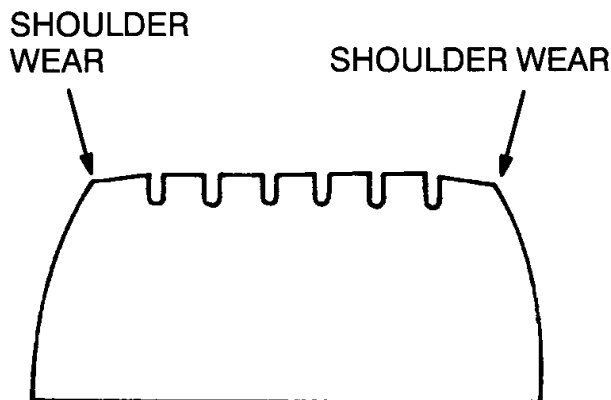
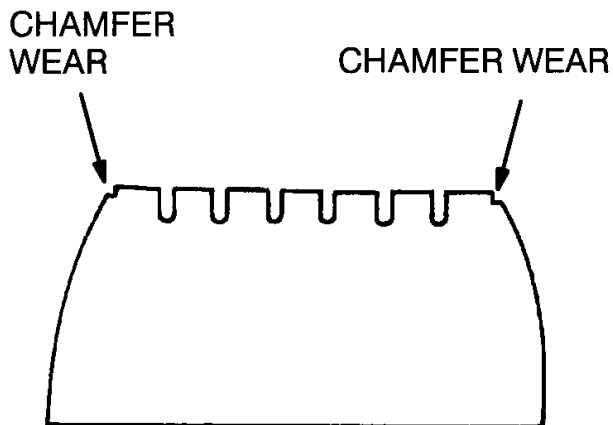
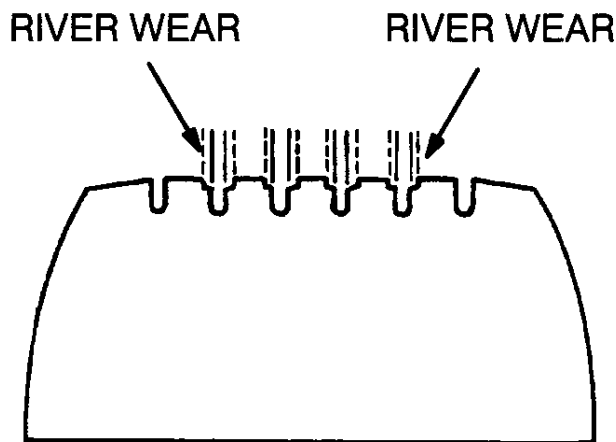

Figure 1 Shoulder Wear
Figure 2 Chamfer Wear
Figure 3 River Wear
- C. **Symmetrical Tire Wear** - Both shoulders of both front tires show the same type and magnitude of wear. Shoulder wear (Figure 1), chamfer wear (Figure 2) and river wear (Figure 3) that are equal on each tread half indicates good alignment.